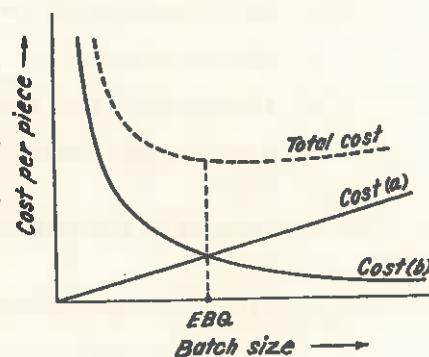

Fig. 7.15. Economic Batch Quantity (EBQ).
- There are two types of costs (Fig. 7.15)
The above-mentioned costs, i.e., (a) and (b) are plotted and the total cost curve is determined by adding (a) and (b) cost curves graphically (refer Fig. 7.15).